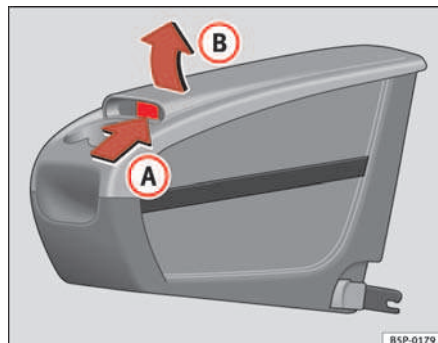

Fig. 111 Mobile stowage compartment Opening
- Lift the cover (B), in area (A) ⇒ fig. 111.